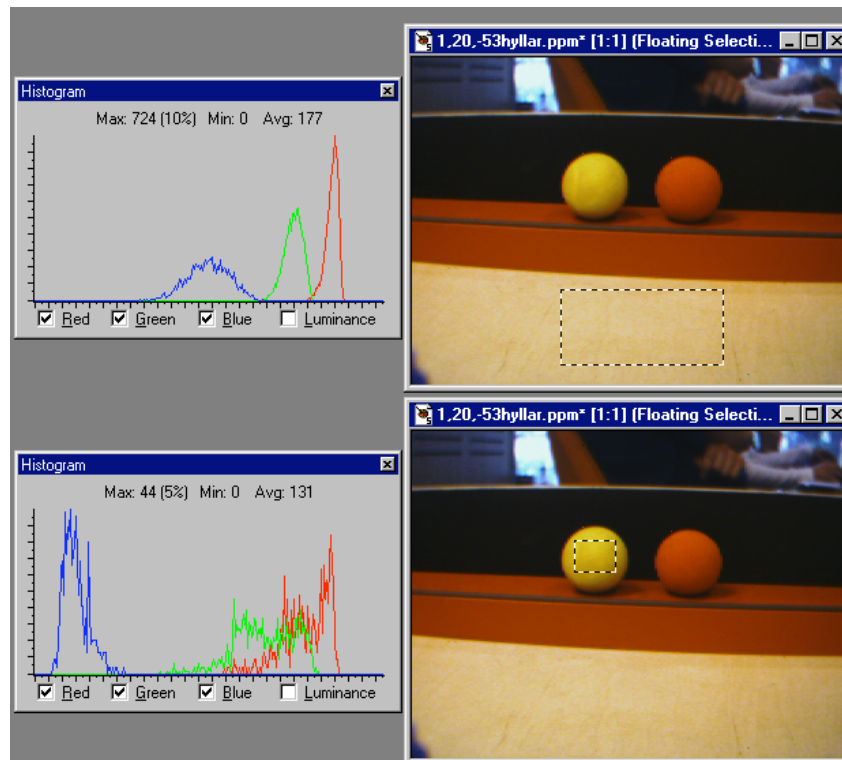

Figure 3: Snapshot from Paint Shop Pro
- ∞ The *Histogram* function is found as a button in the standard toolbar menu at the top. With this function a histogram for each colour in the picture can be plotted. Se figure 3.
- ∞ If you are interested in a specific area you should use *Selection* from the tool palette. But, you must click twice on the selected area to tell the program which area is interesting. This function is useful to see the variations of a specific colour. Se figure 3.